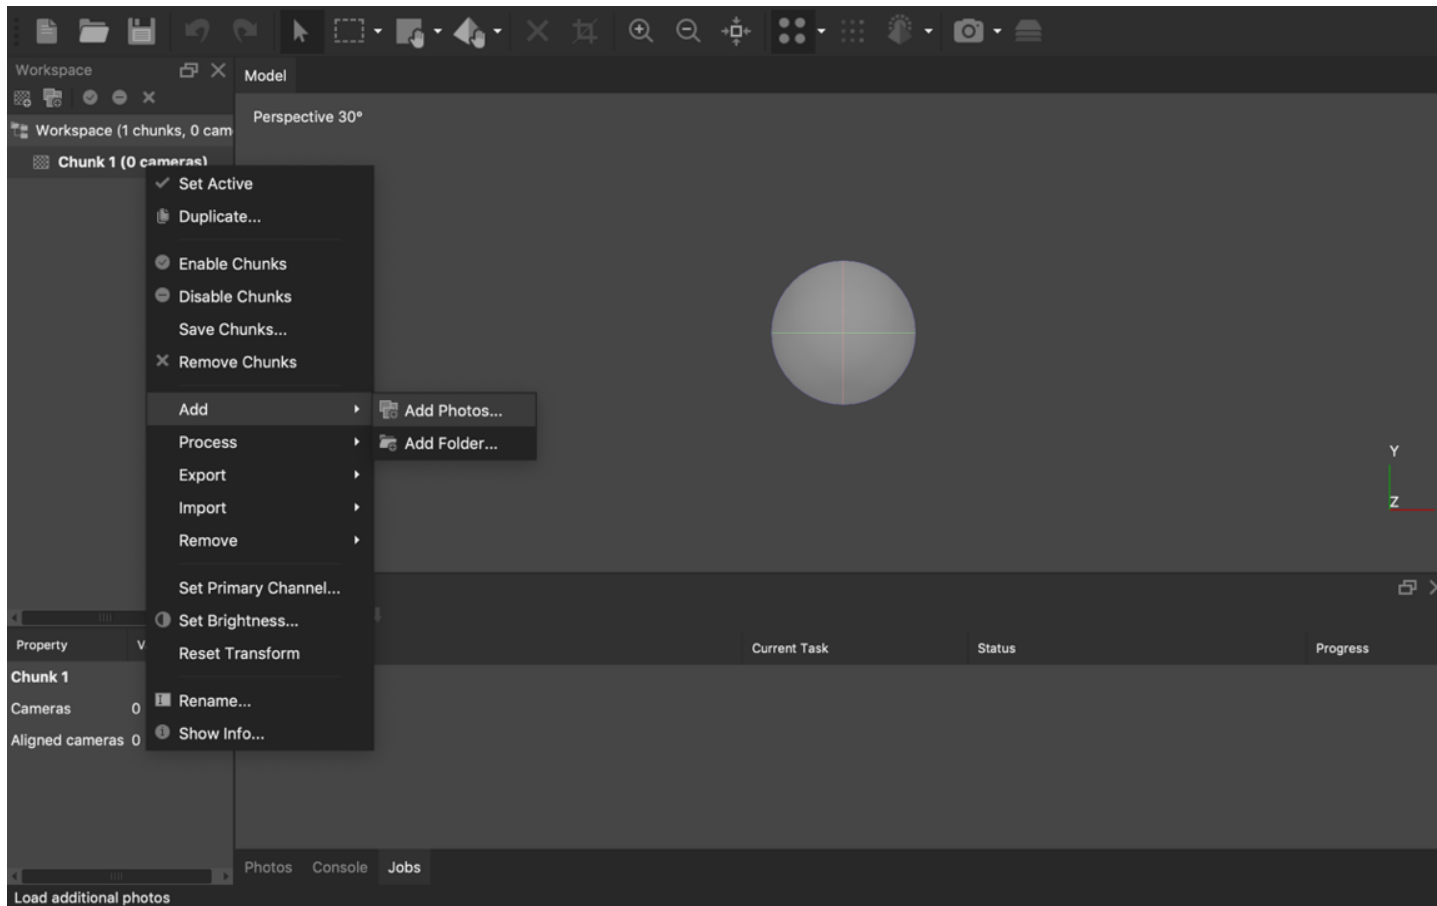

Figure 11. Adding photos in Metashape
1. Open Metashape. Then right click on chunk 1, “Add photos” (Figure 11) and select all the photos in the specified folder.